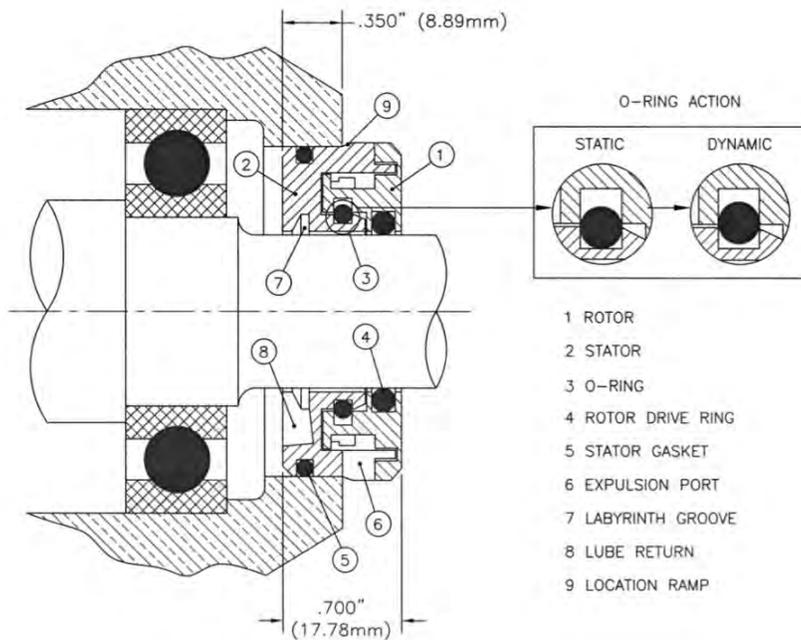

Figure 9-1: Bearing Isolator Installed
3. STO, MTO, and XLO outboard bearing isolator (332A) removal. Block up the outboard bearing housing (134) on the bench, coupling the end toward the bench top. Tap the isolator out of the housing or use an arbor press.
- STO, MTO, and XLO Inboard Isolator. Position the bearing frame (228) or adapter (108) inboard bearing side up. Place the isolator seal (333A) stator side in the bore. **THE EXPULSION PORT MUST BE IN THE 6 O’CLOCK POSITION.** While using a block large enough to cover the entire flange of the isolator, use an arbor press to press the stator into the bore. Press into place until the location ramp begins. (See Figure 9-1.)